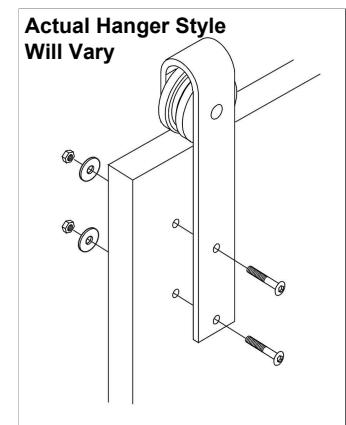

Figure 6
9. Install the hangers to the front of the door using the lag bolt, washers and acorn nuts provided (Figure 6).